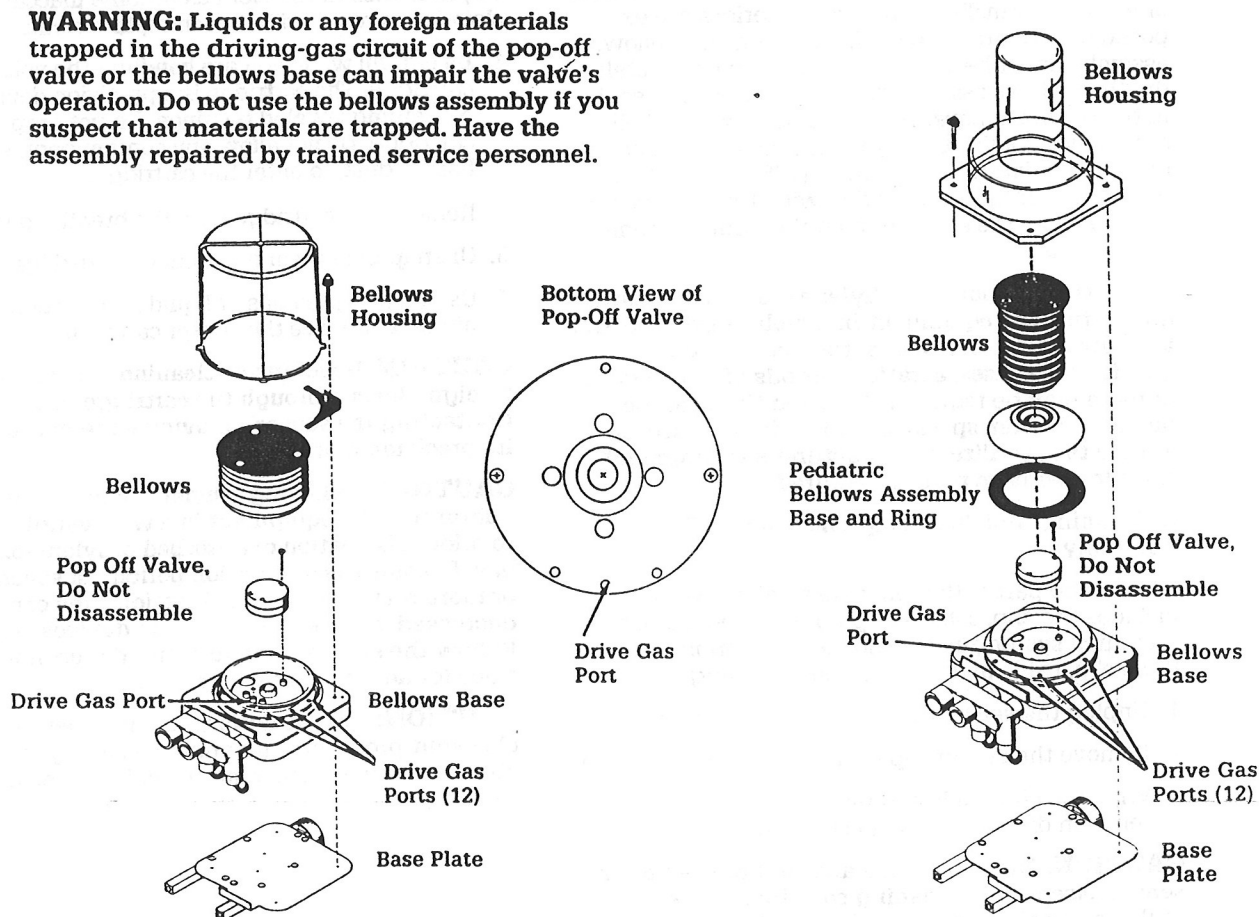
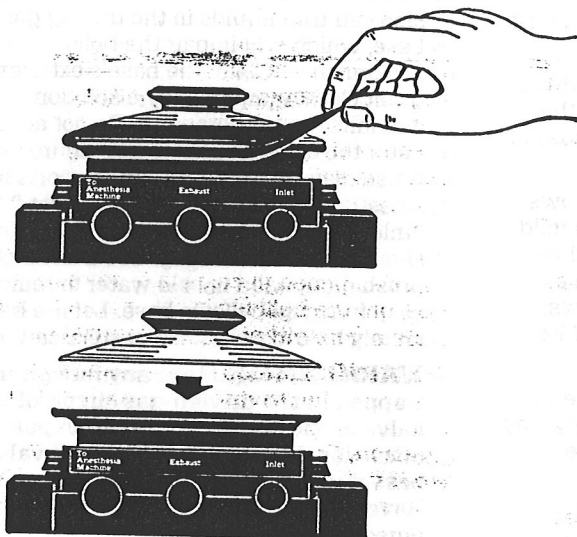

Figure 6-5
Figure 6-6
4. Use figure 6-5 (adult bellows) or figure 6-6 (pediatric bellows) as a guide if you need to disassemble the bellows assembly further for cleaning or sterilization.
2. Wash the bellows (and—in the pediatric bellows only—the base and ring (see figure 6-6)) in a mild soap-and-water solution. Use cold water to thoroughly rinse the bellows of all soap. Remove excess water from the bellows, then hang the bellows, suspended by its top disk, to dry for at least 12 hours.
4. Do not immerse the pop-off valve in liquid. Immersion can trap liquids in the valve, which will impair the valve's performance. Clean the valve's exterior surfaces with a soft cloth dampened with a solution of warm water and mild, liquid detergent. Do not allow liquid to enter the drive-gas port (see figure 6-5). Dampen a clean, soft cloth in cold water and use the cloth to wipe the valve clean. Let the valve dry completely before either use or sterilization.
5. Do not immerse the bellows base in liquid. Immersion can trap liquids in the driving gas circuit of the base, which will impair the bellows assembly's performance. Clean the base's exterior surfaces with a soft cloth dampened by a solution of warm water and mild, liquid detergent. Do not allow liquid to enter the drive-gas ports (see figure 6-5). A bottle brush may be used to clean the ports labeled "To Anesthesia Machine" and "Exhaust." The 17-mm "Inlet" port is normally exposed to only oxygen and shouldn't need cleaning. Use a clean cloth or bottle brush dampened in cold water to remove all traces of soap from the bellows base. Let the base dry completely before either use or sterilization.